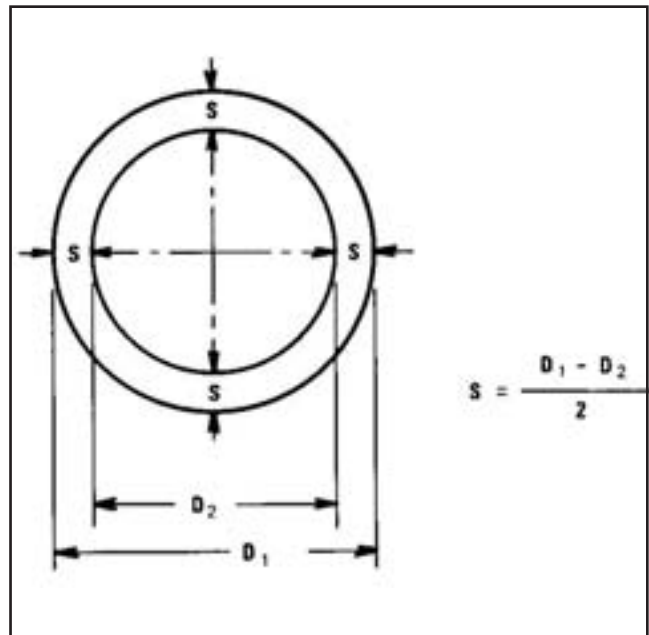

Figure 1 — Dimension "S" For Hubs of Unequal Diameter
- C. OFFSET ALIGNMENT — Hubs of Unequal Diameter; Refer to Figure 1 and measure hub diameters to determine  $D_1$  and  $D_2$ . Calculate dimension  $S$ . Position hubs so that they are located with dimension  $S$  equal at 4 points, 90° apart.